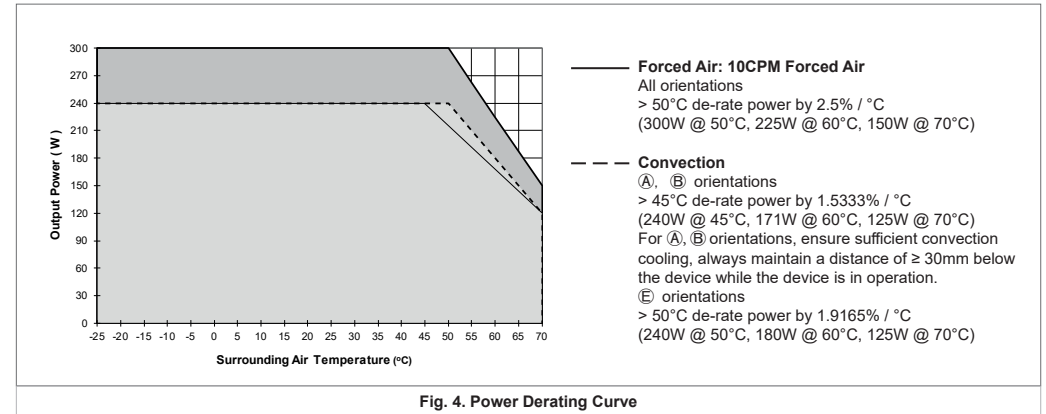

Fig. 4. Power Derating Curve
- Installation of forced air, to ensure sufficient air flow, always maintain a distance and air flow direction as recommended in Fig. 4. while the device is in operation.
4. Power Derating Curve (Refer to Fig .4)
- 安装时为确保强制通风所需的充足气流，电源运行时应始终留出足够空间，气流方向如图4建议。
4. 功率降额曲线 (参见图4)